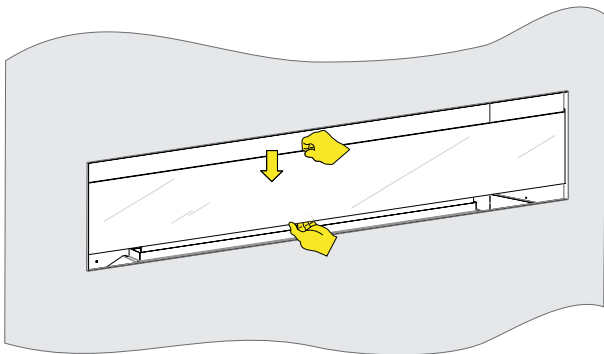

Figure 53
2. Replace the glass front into the fireplace by placing the right side into the slots in the firebox. Carefully angle in the left side of the glass and then slide the glass to the left. Settle the glass into the slots by gently lowering it. See Figures 53 - 58.
Figure 53 shows a correct pilot flame pattern. The correct flame will be blue and will extend beyond the flame sensor. The flame will surround the flame sensor just below the tip. A slight yellow flame may occur where the pilot flame and main burner flame meet. Figure 60 shows an incorrect pilot flame pattern. The incorrect pilot flame is not touching the flame sensor. This will cause the flame sensor to cool. When the flame sensor cools, the fireplace will shut down.